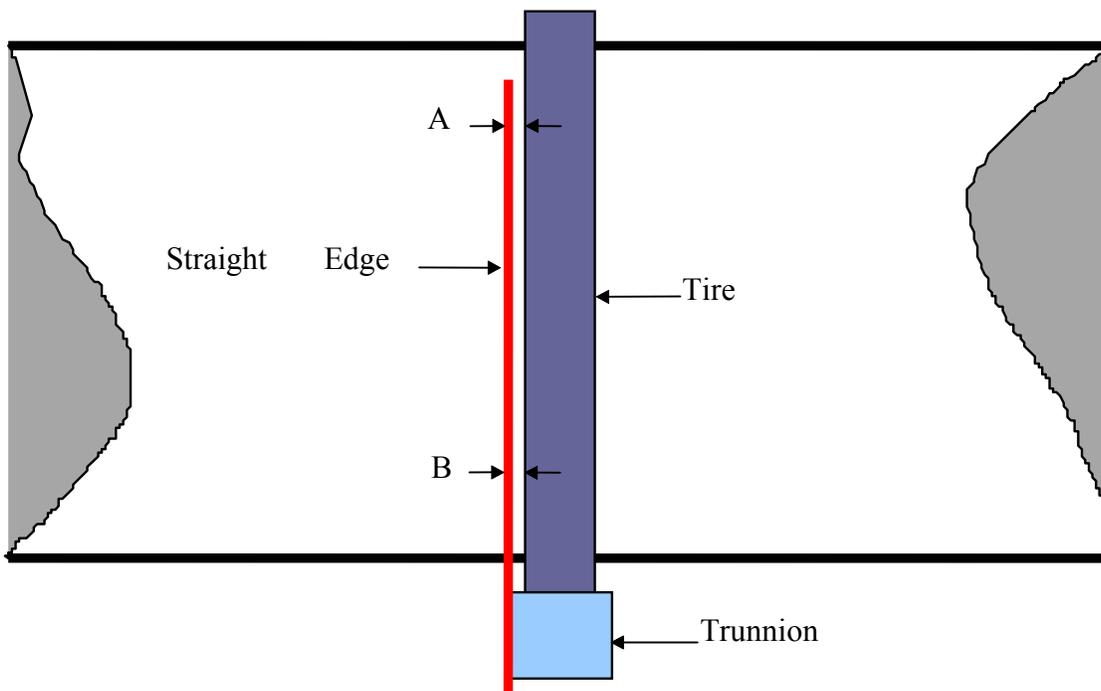

Figure 12. Measurement points A and B for setting
Measure the distance from the straight edge to the center of the tire at two points (refer to **Figure 12**). These points need to be as far apart from each other as possible. In other words, get as high (A) and as low (B) as possible to take your measurements. Be sure you are measuring to the tire. Again, measure to near the center of the side of the tire. Beware of the rolled edge that naturally develops on the outside of the tire. **Do not measure to it.** Zero skew is the point where both measurements are equal. At this point the trunnion and tire are parallel to each other.